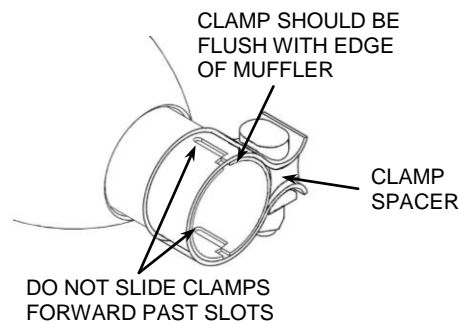

FIGURE 2
11. Tighten the muffler clamps. (NOTE: The muffler clamps should be flush with the end of the muffler when tightened. See **Figure 2**. If the muffler clamps are slid forward past the slots on the slip collar the clamps will not tighten the mufflers properly. Also, make sure the clamp spacer is not over the slots. The slots need to be covered by the clamp band so that it seals the slots properly. Rotate the clamp if necessary).